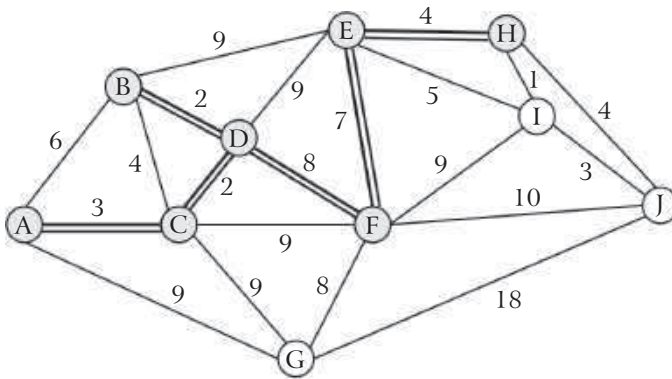

Fig. 8.12
Step 6: The node $\textcircled{H}$ of the set $\bar{C}$ is nearest to the node $\textcircled{E}$ of set C . So we choose this node $\textcircled{H}$ and transfer it from the set $\bar{C}$ to the set C and choose the branch joining these two nodes $\textcircled{E}$ and $\textcircled{H}$ for M.S.T.. These are shown in fig. 8.12.